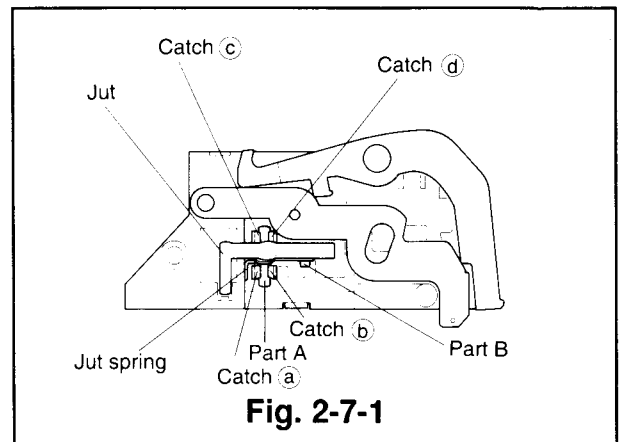

Fig. 2-7-1
- ① Follow the removal method in Items ① to ⑥ of Para. 2-6.
- ② Unfasten the four catches (a, b, c and d) shown in Fig. 2-7-1 to remove the jut and the jut spring.
- ① Install the jut and the jut spring as shown in Fig. 2-7-1. (Insert the jut spring into the part A of the jut before installing the jut. Hook one end of the jut spring with the outside of the catch (a) and the other end with part B of the jut.)
- ② Install the bottom plate according to the installation method in ③ of Para. 2-6.
- ③ Follow the installation method in Items ⑤ to ⑧ in Para. 2-2.